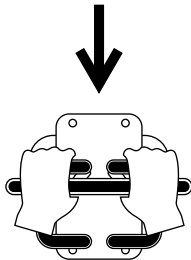

Figure 11
- To move rearward, move both traction controls rearward (Figure 11).